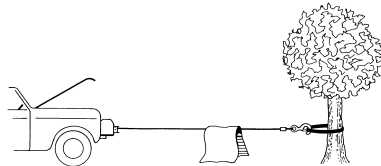

Figure 5
- It is a good idea to lay a heavy blanket or jacket over the wire rope near the hook end when pulling heavy loads (Figure 5). If a wire rope failure should occur, the cloth will act as a damper and help prevent the rope from whipping. Raise the hood of the vehicle for added safety.